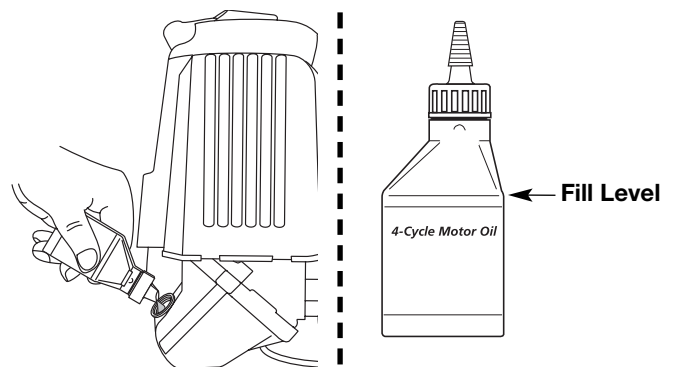

Fig. 18
NOTE: Use the bottle and spout saved from initial use to measure the correct amount of oil. Pour fresh fuel into the bottle and fill it to the top of the label. The top of the label on the bottle measures approximately 3.04 ounces (90 ml). Check the level with the dipstick. If the level is low, add a small amount of oil and recheck. Do not overfill (Fig. 18).
8. Swing the cover to the left until the tab on the air filter cover snaps into place in the slot on the left side of the air filter housing (Fig. 18).